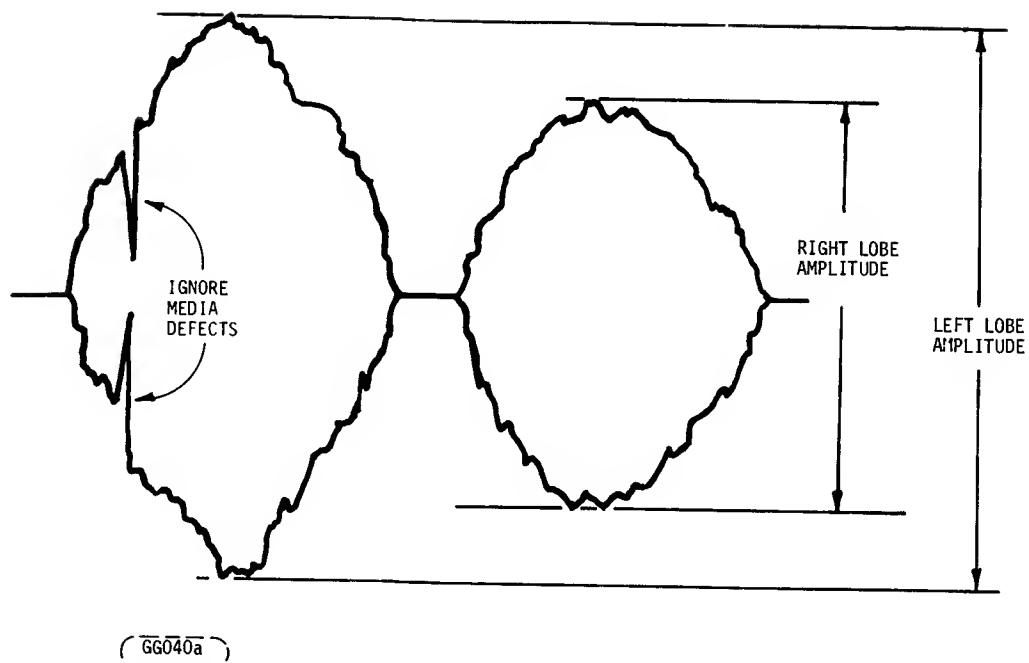
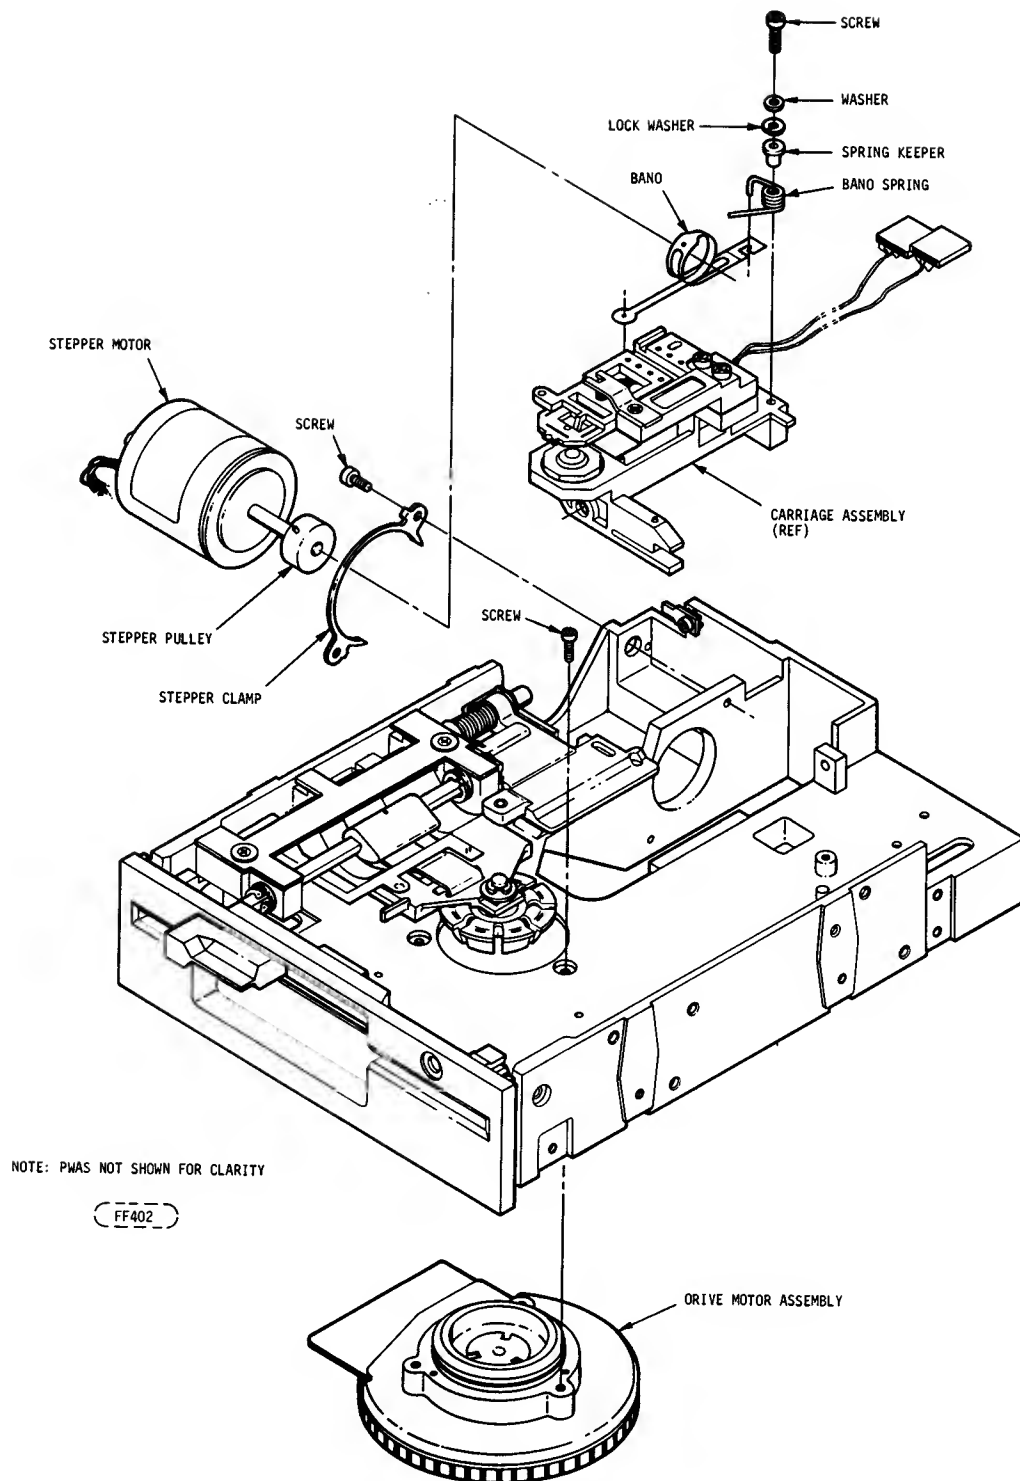

FIGURE 6-5. HEAD ALIGNMENT AMPLITUDE
FIGURE 6-8. DRIVE MOTOR REMOVAL
Scope trace, after trigger level is adjusted for repetitive trace should display an envelope of data "cateyes" consisting of two lobes (refer to Figure 6-5). If lobe pattern is observed, proceed to Step "g". If no such pattern can be displayed, proceed to Step "h".
- h. Change the scale of Channel 1 and Channel 2 to 0.02 volts/div. Move the trace on the scope (Position Knob) up until the bottom of the two lobes are setting approximately on the base line (refer to Figure 6-5). Loosen the stepper motor mounting screws (see Figure 6-8) and slowly rotate the stepper motor until the amplitude of both lobes is the same.
- b. Remove three (3) screws securing the spindle motor (Figure 6-8).